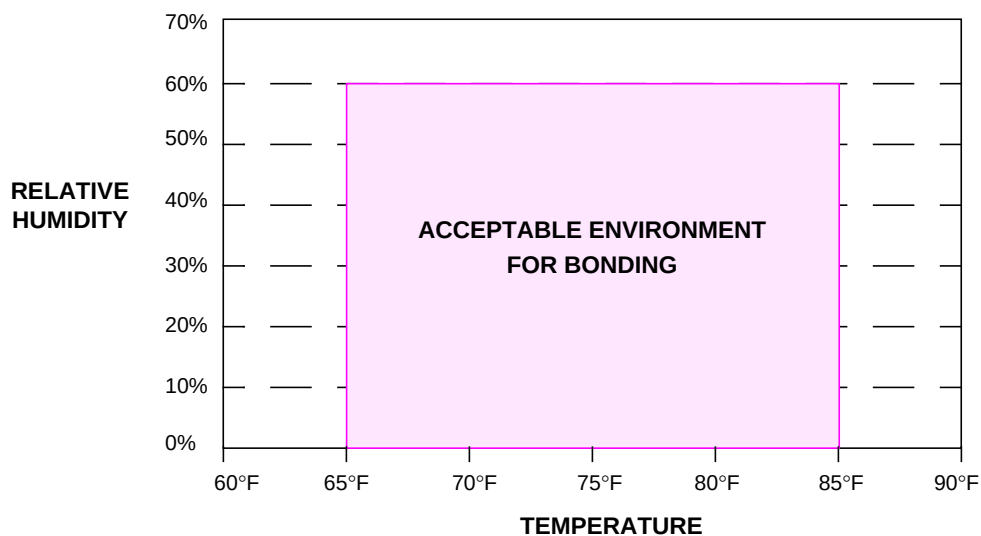

FIGURE 1 - TEMPERATURE AND HUMIDITY LIMITS FOR BONDING AREAS
- 6.2.1 Maintain the temperature and relative humidity of the bonding areas within the range specified in Figure 1. Bonding when the relative humidity is below 30% will increase the chance of static discharge and worker discomfort, but will not affect part quality. Record the temperature and relative humidity of the bonding areas on continuous chart recording equipment when parts are being processed for Bombardier.